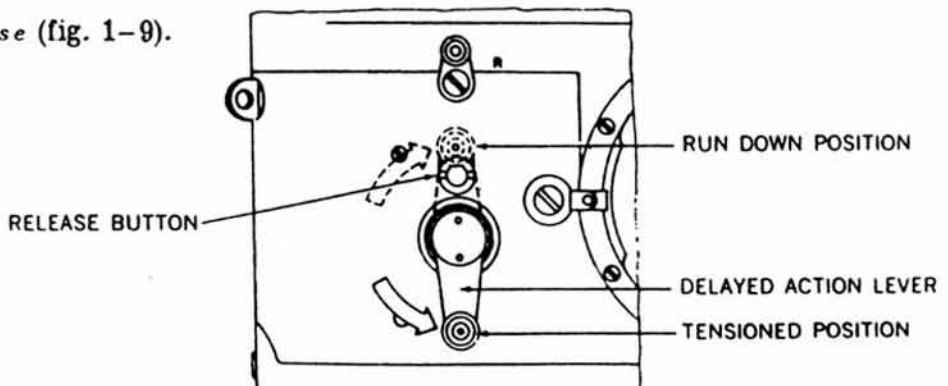

Figure 1-9. Delayed Action Lever and Release.
d. *Delayed Action Release* (fig. 1-9).